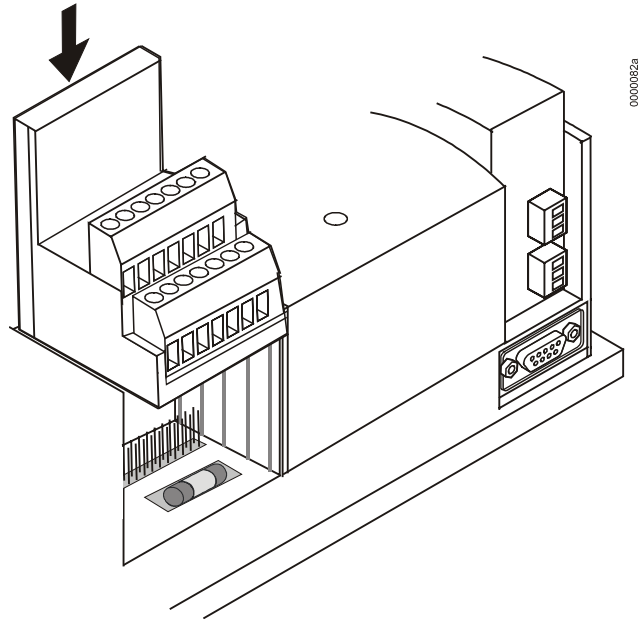

Fig. 73. Attaching screw terminal block
8. Attach the terminal blocks to the housing as shown in Fig. 73.